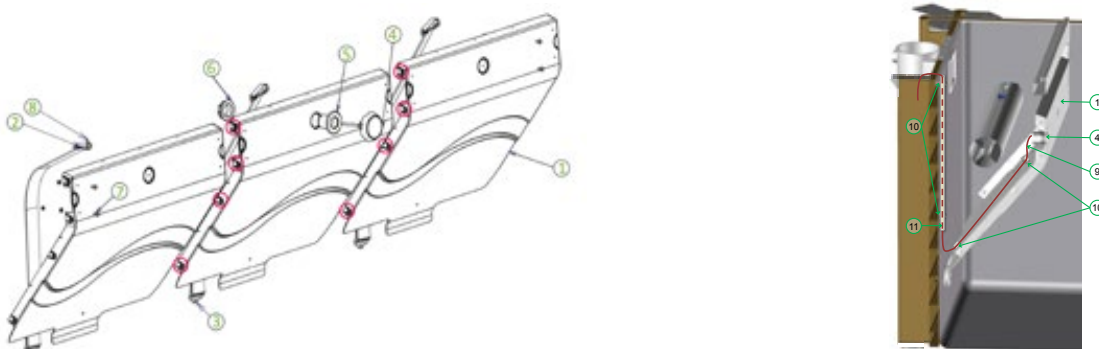

Figure 42 – Installing the pit wall and underwater light
The beam assembly steps are illustrated in Figure 42. The screws required for assembly are enclosed in bag Y. In this figure, the wooden wall is located between parts 7 and 8, and the liner is sandwiched between the two rubber gaskets (7).
As of the 1st of January 2004, the French pool safety standard NF P 90-308 has required that the portion of the pool in which the cover is installed must be separated from the rest of pool. Installation of the pit wall is therefore mandatory. The pit wall and underwater light assembly steps are illustrated in *Figure 42*. The screws required for assembly are enclosed in bag Y.
Assemble the three pit wall modules (1) using eight hex head 8 × 20 A4 SS screws, and eight 8 mm diameter nuts, place a 8 mm diameter washer on either side of the wall, that is a total of 16 washers. The locations of these screws on the wall are circled in red in *Figure 42*.